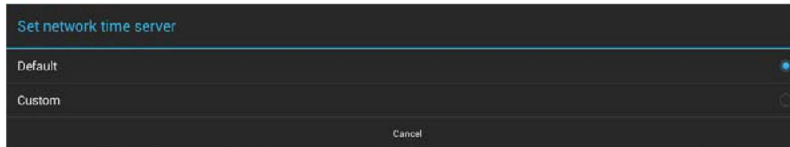

FIG. 80 Set network time server window
1. Press **Set network time server** to open the Set network time server window (FIG. 80):